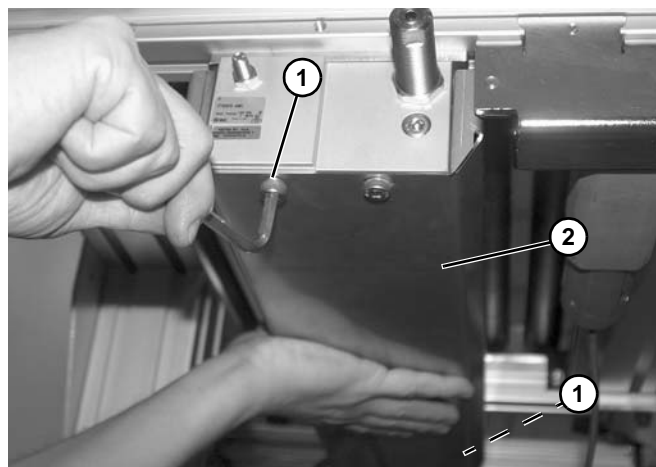

Figure 111
1. Remove screw (**Figure 111, item 1**) on both sides and remove cover (**Figure 111, item 2**).